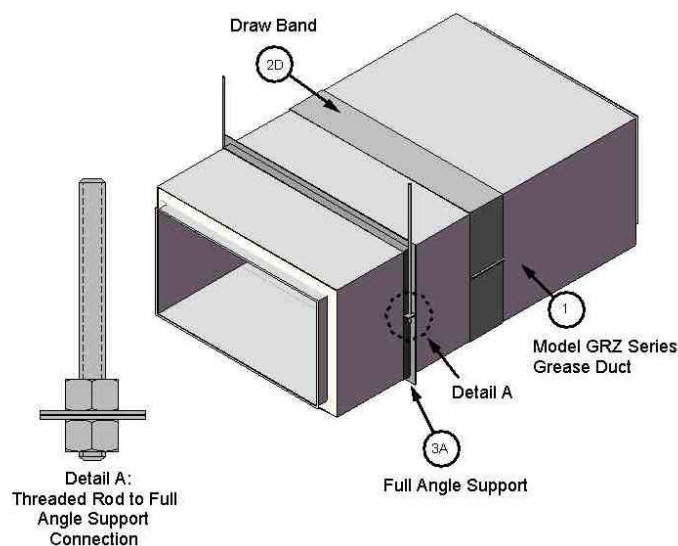

Figure 1. Model GRZ Series Grease Duct
Reference Figure 1. Install Pre-Fabricated Grease Duct in compliance with the requirements of NFPA 96, the International Mechanical Code (IMC), or other regulatory requirement, as applicable. Install at a slope not less than one-fourth unit vertical in 12 units horizontal toward the hood or toward a grease reservoir. Where horizontal ducts exceed 75 ft. in length, the slope shall be not less than one unit vertical in 12 units horizontal. Use the Intertek-certified Pre-Fabricated Grease Duct identified above
- A. **HORIZONTAL SUPPORTS** – Support the Pre-Fabricated Grease Duct (Item 1) using supplied 2 x 2 x 3/16 in. steel, full-angle supports (See Figure 1) (two halves required); 2 x 2 x 3/16 in. steel
double nut. Place one threaded steel rod on each side of the Pre-Fabricated Grease Duct (Item 1) and fasten to the support member with appropriately sized nuts (see Figure 1, Detail A). Install the rods at a max. of 1 in. from each side of the Pre-Fabricated Grease Duct (Item 1). Space horizontal supports a max. of 12 ft. on center (oc). Reduce the support spacing for larger ducts to ensure that the load on each hanger (set of two threaded rods and support member) does not exceed 500 lb. Alternatively, use manufacturer-supplied, min. 2 in. wide, min. 11 GA, steel Hanger Bands (BHB) as the supporting member, and reduce the max. load per hanger to 420 lb.